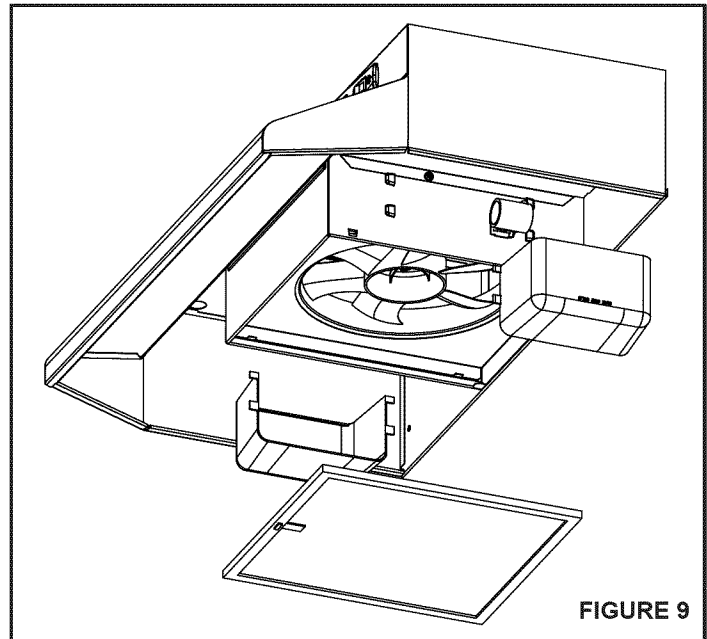

FIGURE 9
2. **Refer to FIGURE 9.** The filter slides into channels at the back of the hood, on either side of the fan compartment, and snaps under the spring clips near the front of the fan compartment.